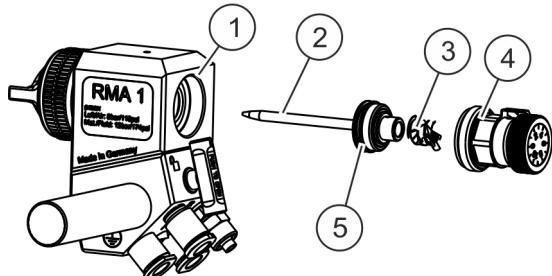

Fig. 11: Removing the material needle
2. ➔ Unscrew the needle stroke adjustment screw ( Fig. 11/4 ).
3. ➔ Remove the pressure spring ( Fig. 11/3 ).
4. ➔ Pull out the control piston ( Fig. 11/5 ) from the main element ( Fig. 11/1 ) together with the material needle ( Fig. 11/2 ).
Remove the material needle ( Fig. 11/2 ) from the control piston ( Fig. 11/5 ).
Insert the new material needle into the control piston ( Fig. 11/5).
- 2.** ➤ Push the control piston and the mounted material needle into the main element ( Fig. 11/1).
- 3.** ➤ Press in the pressure spring ( Fig. 11/3) with the needle stroke adjustment screw ( Fig. 11/4).
- 4.** ➤ Tighten the needle stroke adjustment screw ( Fig. 11/4).